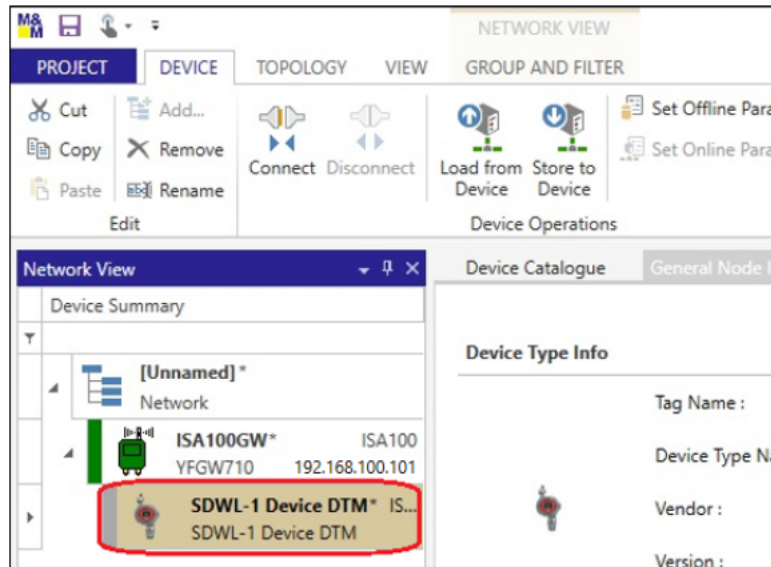

Figure 5-46 SDWL-1 DTM added
- ⑧ “SDWL-1 Device DTM” is added to the tree menu on the left side of the main window. (Figure 5-46)